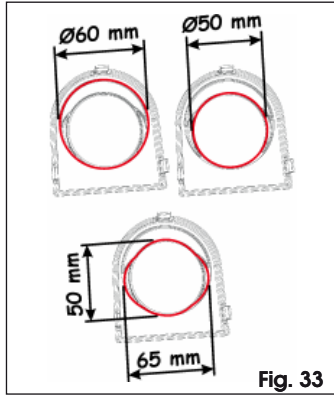

Fig. 33
- Open, on the front plug, the pre-perforated facility for the type of installed rod, see Fig. 33 and fasten it to the release housing.